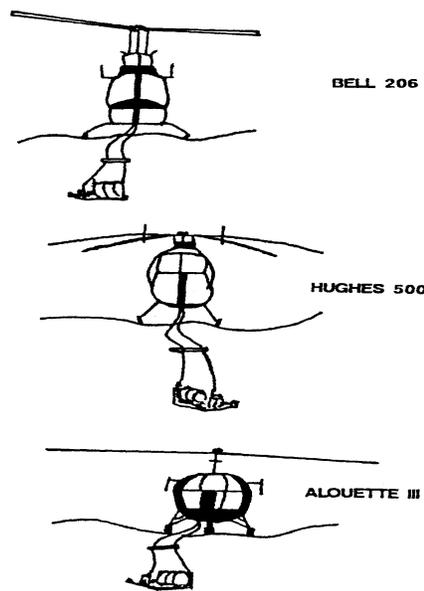

Figure 6
- C. Place the helitorch on the ground in front of the helicopter with the nozzle end to the pilot's side of the aircraft and make sure the switches are off. (See Figure 6.)